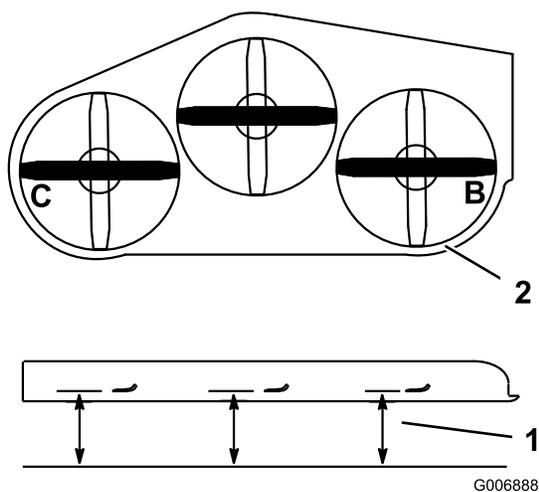

Figure 73
1. Position the **right** blade side-to-side (Figure 73).
2. Measure the right blade at the **B** location, from a level surface to the cutting edge of the blade tip (Figure 73).
4. Position the left blade side-to-side (Figure 73).
5. Measure the left blade at the **C** location (Figure 73), from a level surface to the cutting edge of the blade tip.